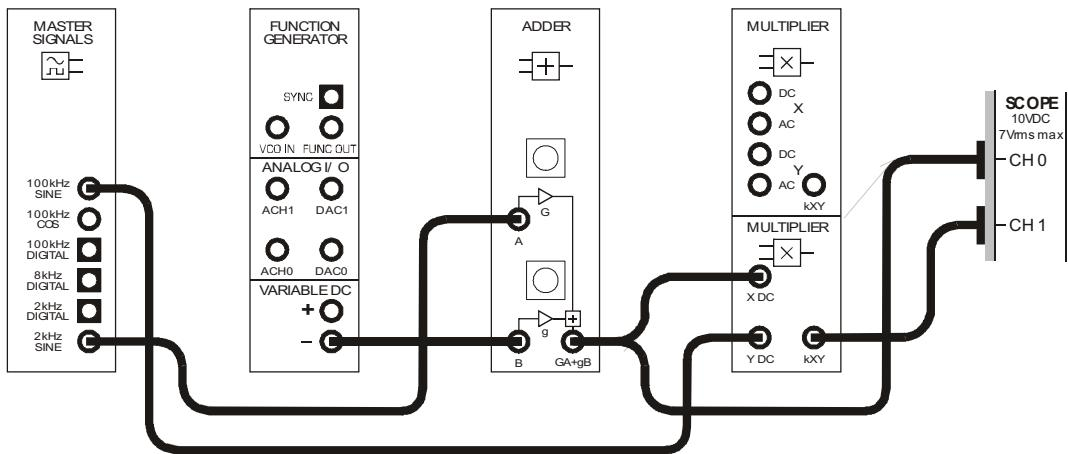
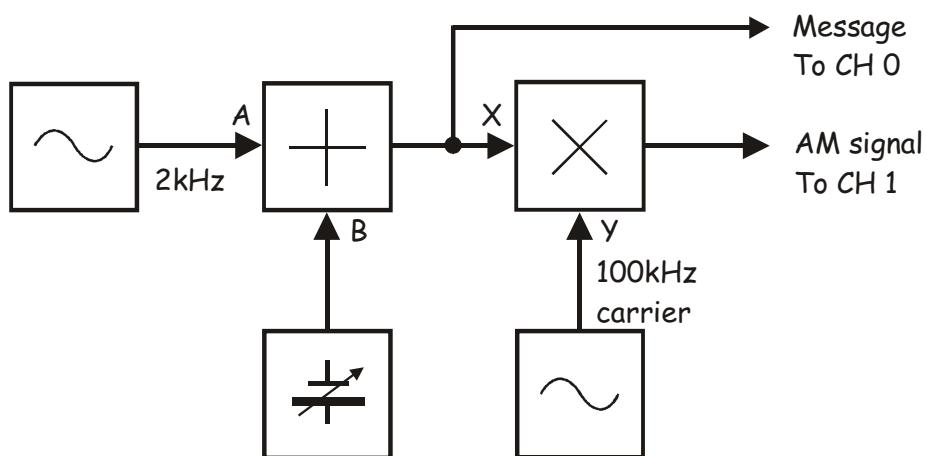

Figure 2
Figure 3
14. Connect the set-up shown in Figure 2 below.
The set-up in Figure 2 on the previous page can be represented by the block diagram in Figure 3 below. It generates a 100kHz carrier that is amplitude modulated by a 2kHz sinewave message.
A common misconception about AM is that, once the signal is over-modulated, it's impossible to recover the message. However, when the AM signal is generated using an ideal or near-ideal modulator (like Figure 3) this is only true for the envelope detector.
As an aside, the commercial implementation of AM modulation commonly involves a Class C amplifier for efficiency (that is, to minimise power losses). When a Class C amplifier is operated at depths of modulation above 100% the circuit's operation no-longer corresponds with the model of an AM modulator in Figure 3. Importantly, in addition to producing an envelope that is not the same as the original message, the over-modulated Class C circuit produces extra frequency components in the spectrum. This means that neither the envelope detector nor the product demodulator can reproduce the message without distortion.